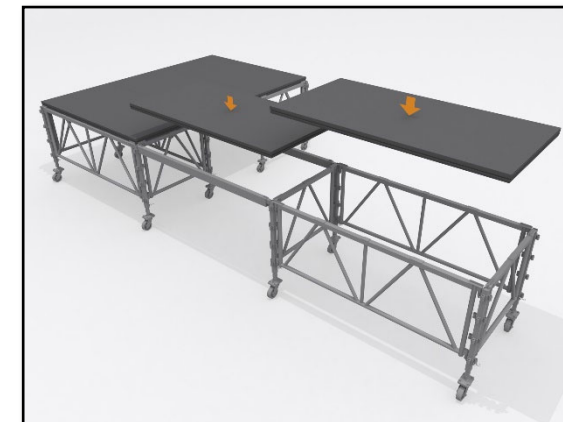

Fig. 31 – Fit additional decks
9.1.8.4 Carefully fit the deck into the Downstage bay. This bay should be made up of 2 off 4' gates and 2 off 8' beams. *Fig. 31 – Fit additional decks*
9.1.8.6 Carefully fit the next Downstage deck into the last empty bay. This bay should be made up of 2 off 8' gates and 2 off 4' Gates. *Fig. 31 – Fit additional decks*